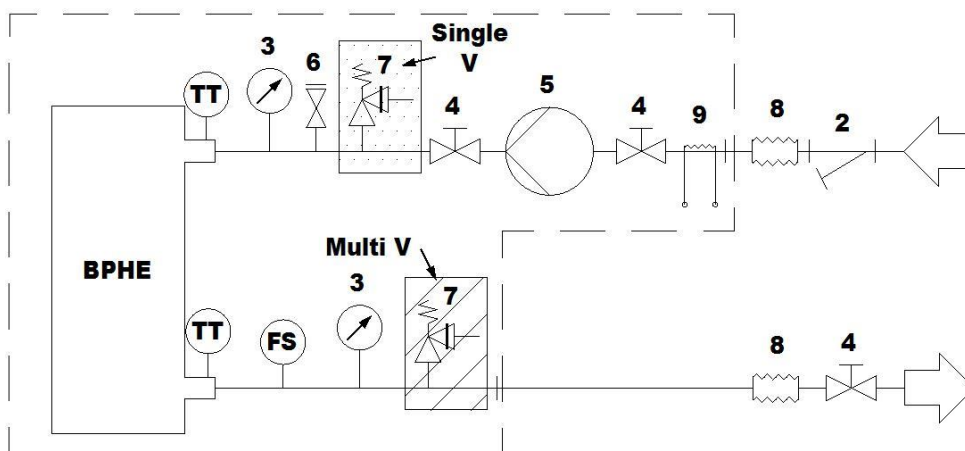

Fig. 6– Hydraulic diagram with pump(s) on board (opt. 78÷81) (max. operating pressure 6 bar)
8. A filter or device that can remove particles from the fluid. The use of a filter extends the life of the evaporator and pump and helps to keep the water system in a better condition. **The water filter must be installed as close as possible to the chiller**, as in Figs. 6 and 7. If the water filter is installed in another part of the water system, the Installer has to guarantee the cleaning of the water pipes between the water filter and the evaporator.